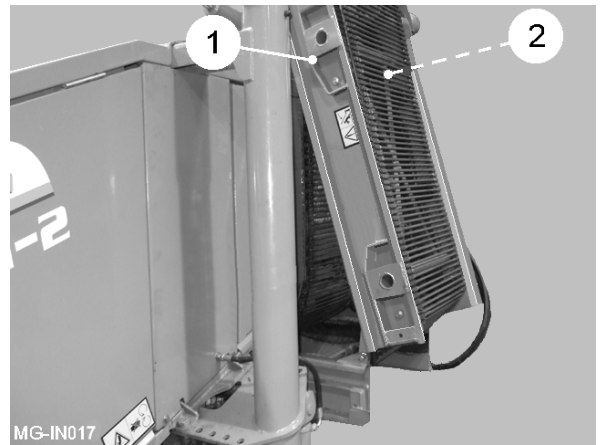

Fig 11
The LH side of the cross conveyor (item 1, fig 11) is folded vertically to reduce the width for transport.
1. Remove the transport lock pin (item 2, fig 11).
4. Refit the transport lock pin (item 2, fig 11) and secure with the R' clip.